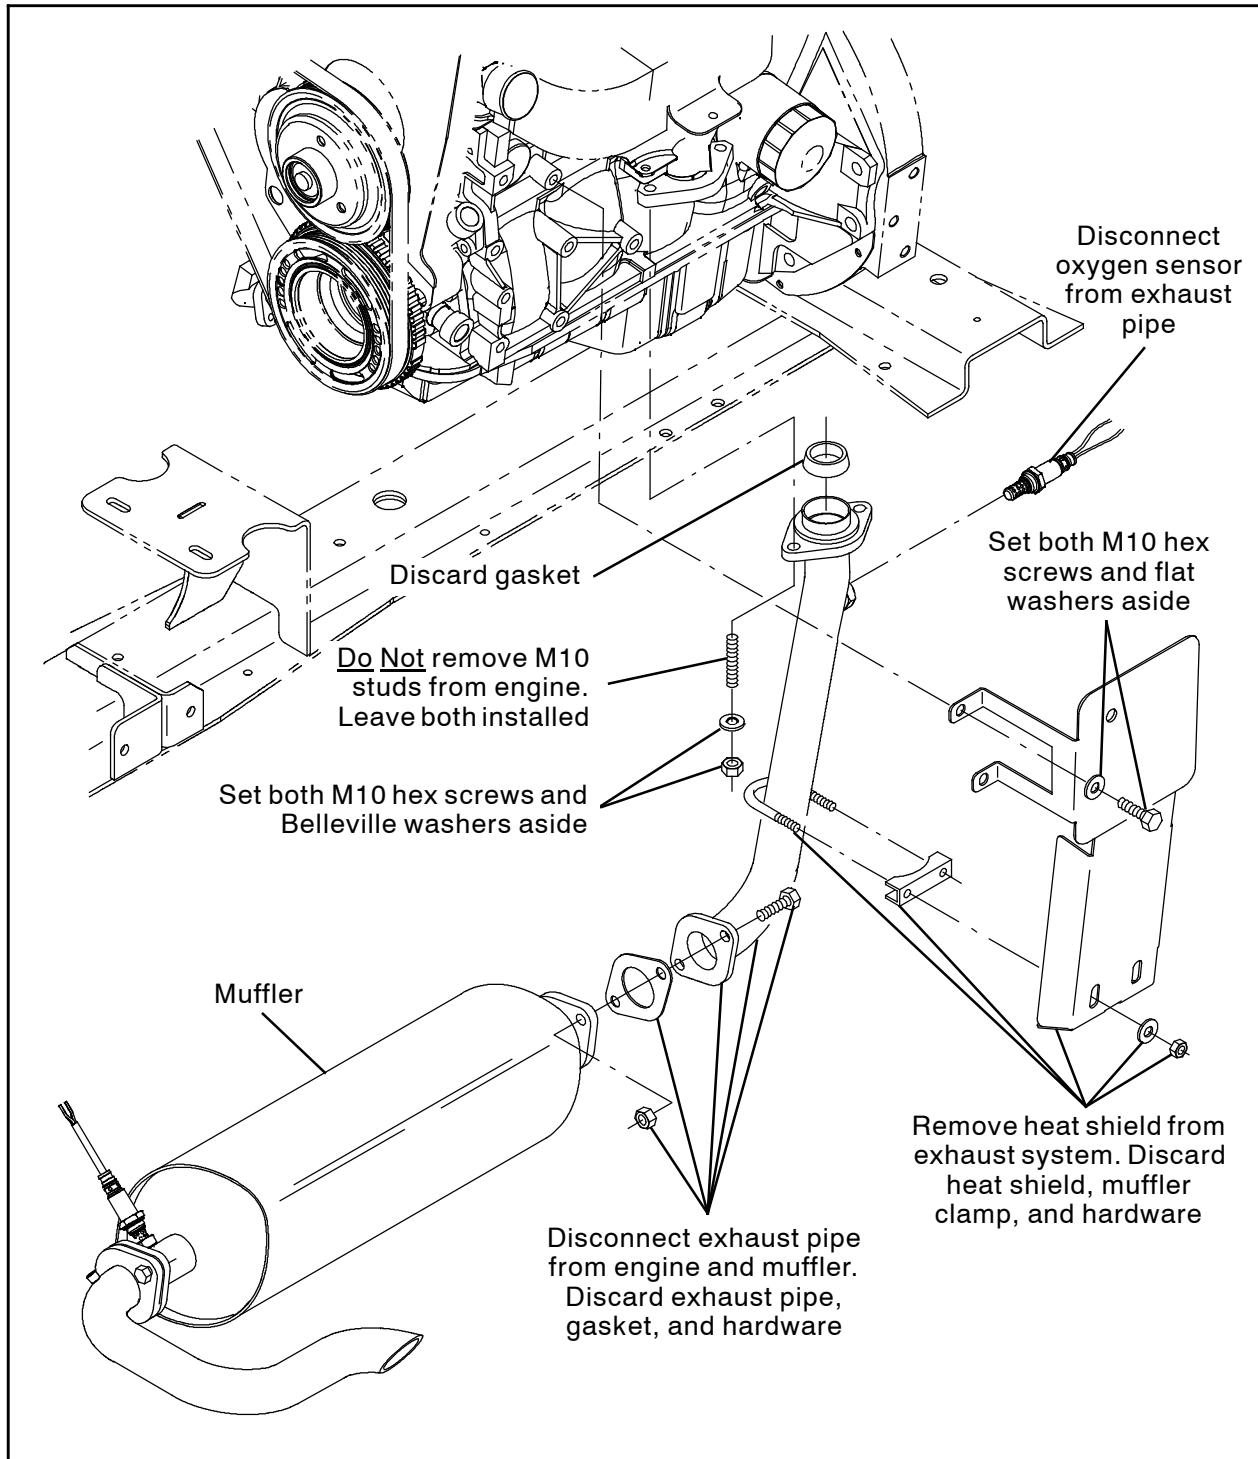

FIG. 2
1. Disconnect the oxygen sensor from the exhaust pipe. (Fig. 2)
2. Remove the existing exhaust pipe and heat shield from the machine. (Fig. 2)